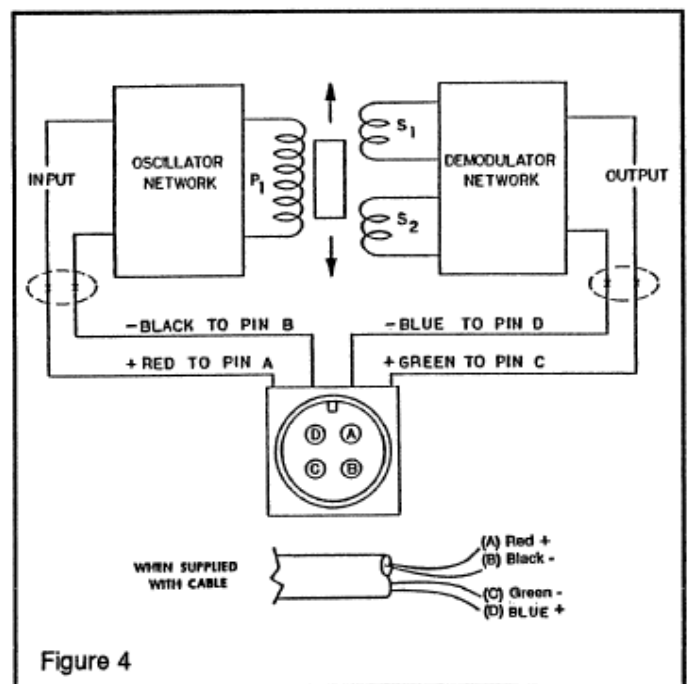

Figure 4
As illustrated in Figure 4, a DC LVDT consists of the following components:
3. Observing correct polarity, connect the positive (+) input lead to Pin A and the negative (-) input lead to Pin B. (See Figure 4)
4. Connect the positive (+) output lead to Pin D and the negative (-) output lead to Pin C. (See Figure 4)
2. Connect a voltmeter to Pins C and D (See Figure 4)
To check, turn off power and disconnect the input and output leads. Check coil continuity and resistance. (Refer to Figure 4)